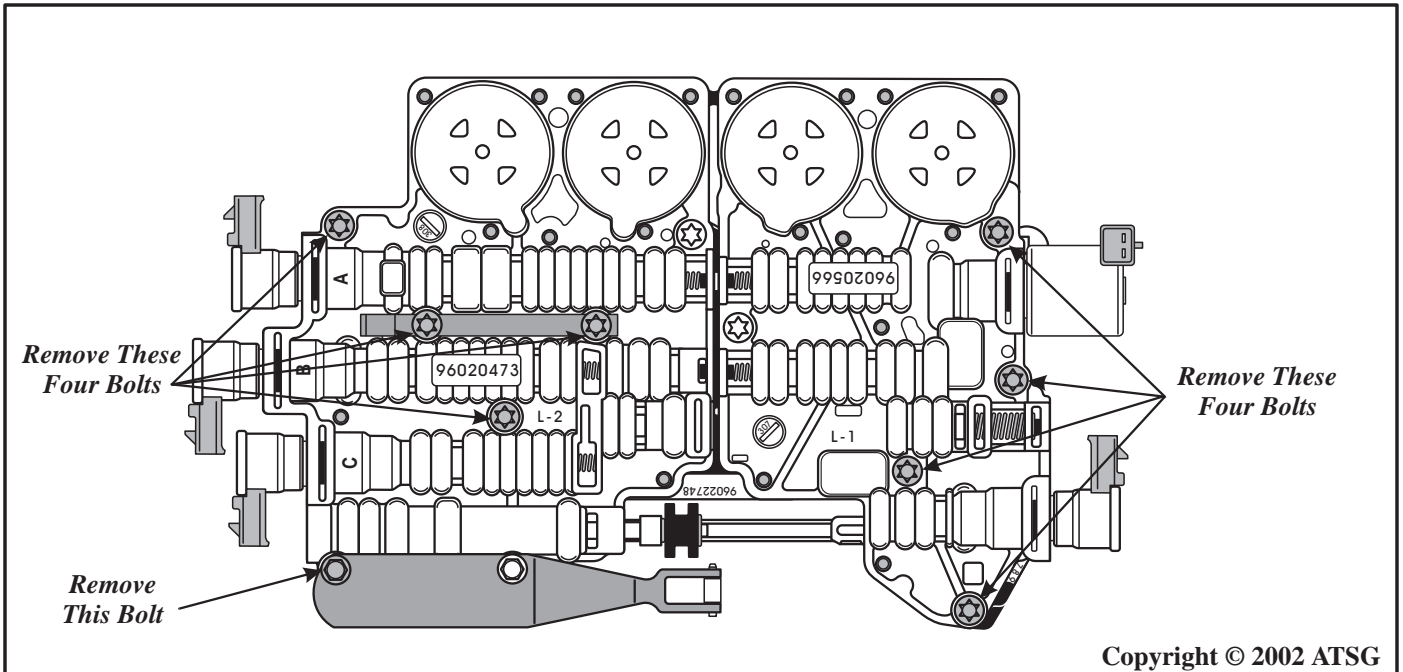

Figure 41
28. Remove only the nine valve body bolts that are called out in Figure 41.